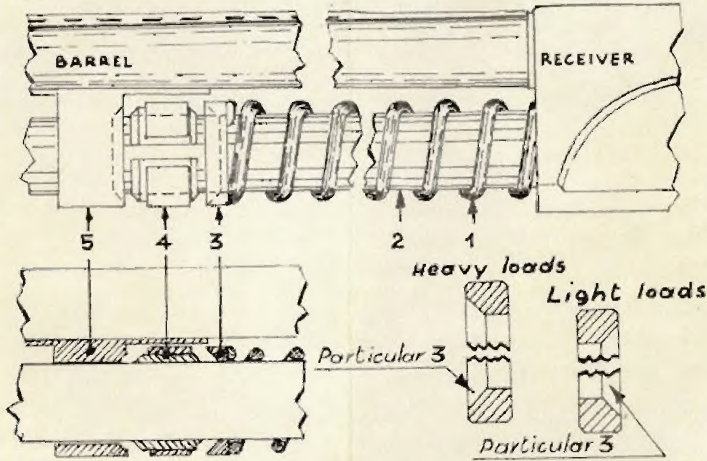

Fig. 1
3. The friction ring is then placed over the magazine tube with its bevelled surface forward (the flat surface of this ring is in contact with the spring). See position A - fig. 1.
2. For light loads, turn the friction ring with its bevelled surface against the recoil spring as shown in position B - fig. 1.